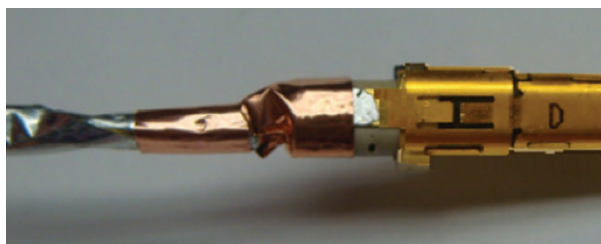

Figure 31: Taping the outer body ears
23. Wrap copper tape around the ears of the outer body so that it touches the tape around the foil shield of the twisted pair (Figure 31).